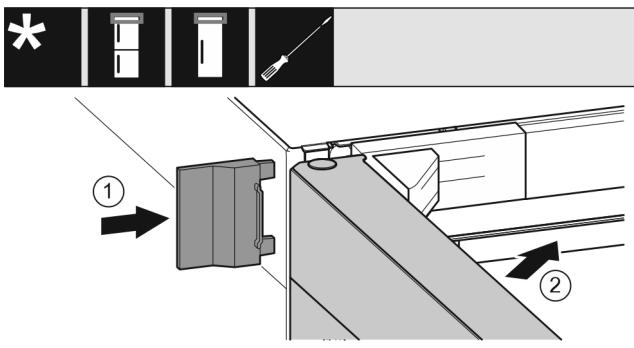

Fig. 21
- ▶ Push the outer cover Fig. 21 (1) on.
- ▶ Close the upper door Fig. 21 (2).